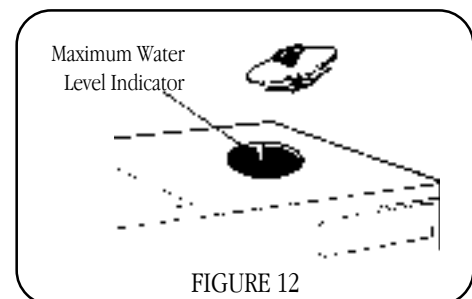

FIGURE 12
- e) Add additional water by depressing the momentary water switch until the water level reaches the bottom of the Maximum Water Level Indicator as shown in figure 12.